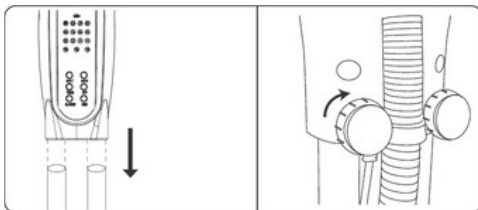

Fig. 2
2. Unscrew the two screws on the back of the unit (do not completely unscrew the two nuts as they will fall off). Attach the motor unit to the pipes and tighten the nuts (Fig. 2).